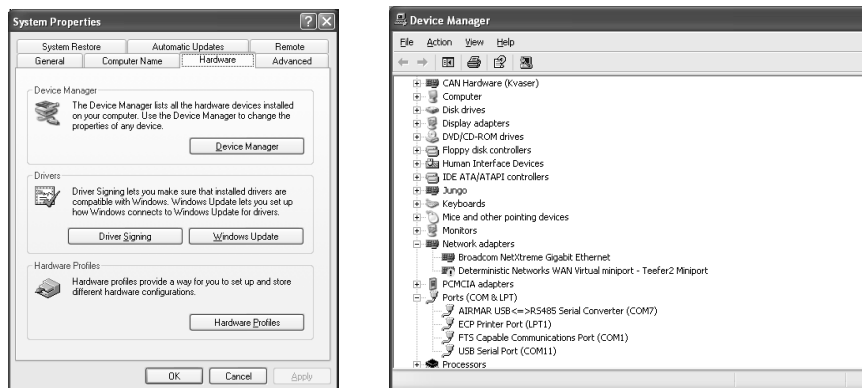

Figure 66. Identify the communications port
**NOTE:** If you do not know to which communications port the Converter or Combiner is connected, click the PC's Start button or right click My Computer. Go to Control Panel>System. On some computers, go to Settings>Control Panel>Printers and Other Hardware, then click System. In the System Properties window, click the Hardware tab, then click Device Manager (see Figure 66). In the Device manager window, expand Ports by clicking the "+" button. Identify the communications port. In the Figure below, it is communications port 7 (com7).
Raw data logging can also be enabled using the Communications/Diagnostics window (see Figure 66). When raw data logging is enabled, all data received from the attached sensor is logged to a data file. The name of the file will be mmm\_dd\_yyyy\_sn\_0183.LOG.